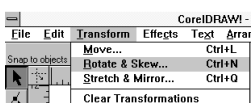

Fig. 6
10. To use the resistor in the drawing of the differential amplifier, its orientation must be changed to vertical. Click the mouse on the transform menu. Then click on the rotate and skew sub-menu as shown in **Figure 6**.